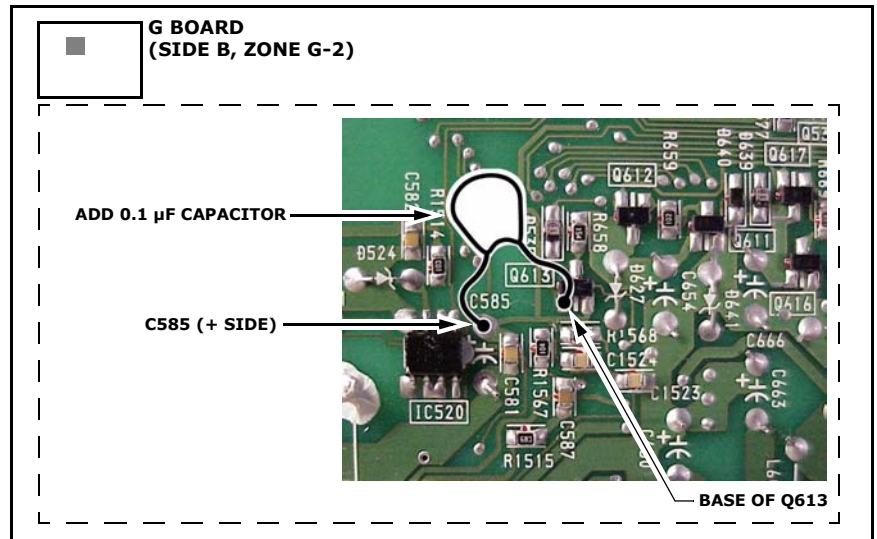

Figure 1
1. Solder a 0.1 μ F capacitor between the base of Q613 and the positive (+) side of C585. (See Figure 1.)